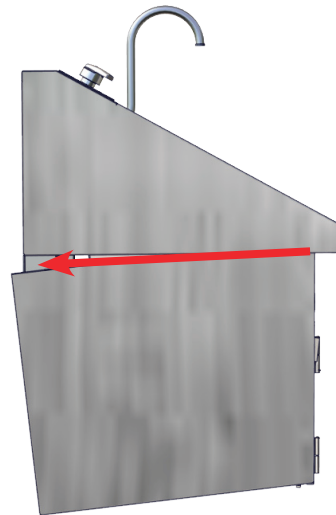

Fig. 9: Tilt Sink Base
8. Tilt Sink Base Downward towards the back so that the lip of the front panel of the base slides off the bottom shroud (Fig. 9)